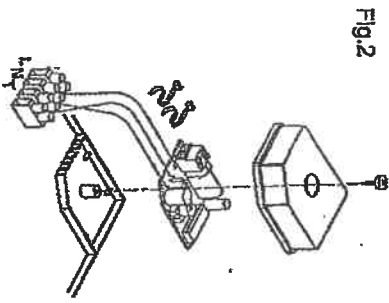

Fig.2
3. Insert and fix the Timer to the Timer Space of Motor Housing as shown in Fig. 2.